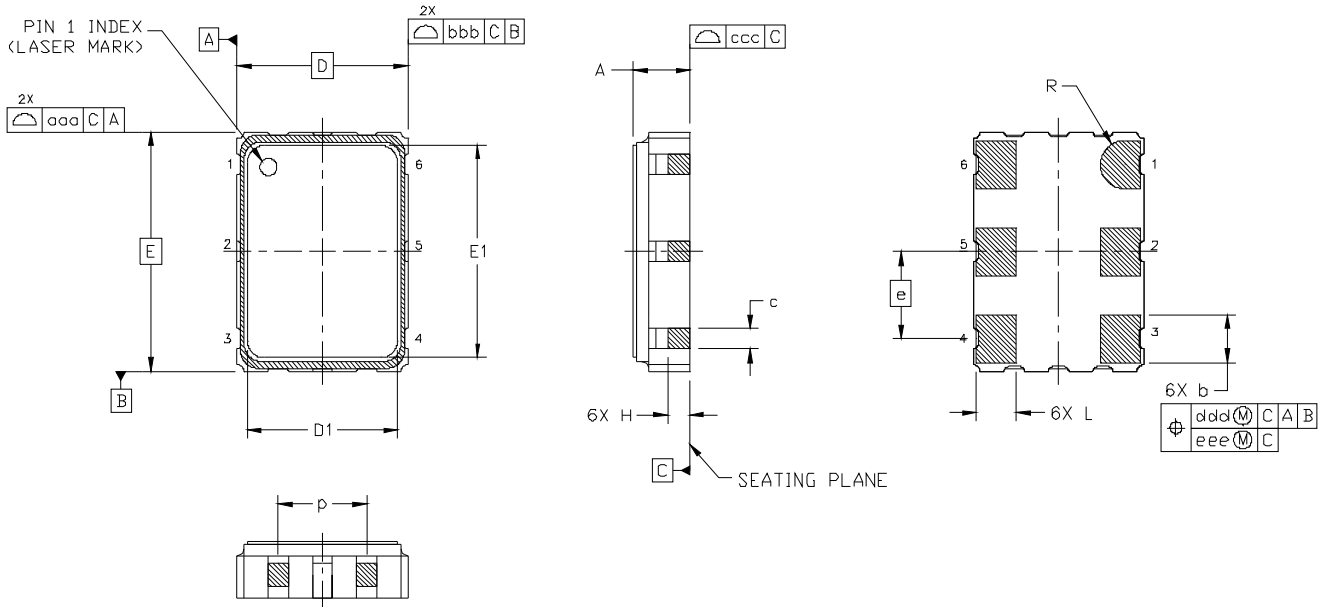

Figure 2. Si552 Outline Diagram
Figure 2 illustrates the package details for the Si552. Table 11 lists the values for the dimensions shown in the illustration.
- Added crystal impedance pin in Figure 2 on page 10 and Table 11 on page 10.